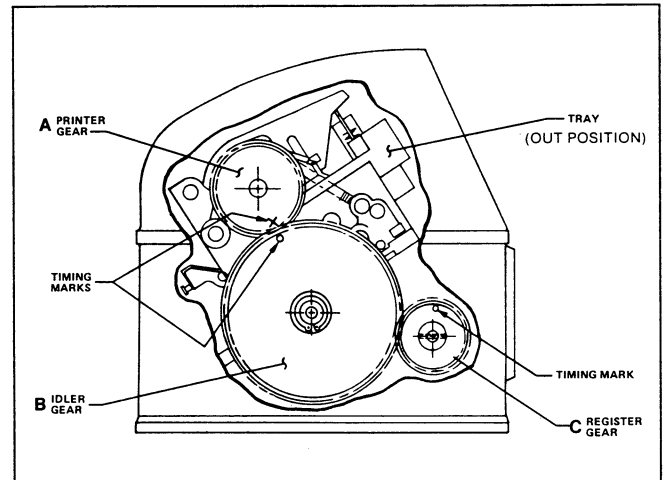

Figure 6. Assembling Printer to Meter Register
3. Rotate the large idler gear (B) so that the timing marks on it and the printer gear (A) align. See Figure 6. It may be necessary to hold the idler gear in position until the printer is mounted and the idler gear and print gear engage.
5. Check the position of the timing marks on the printer gear (A), idler gear (B) and register gear (C). They must be in the position shown in Figure 6.